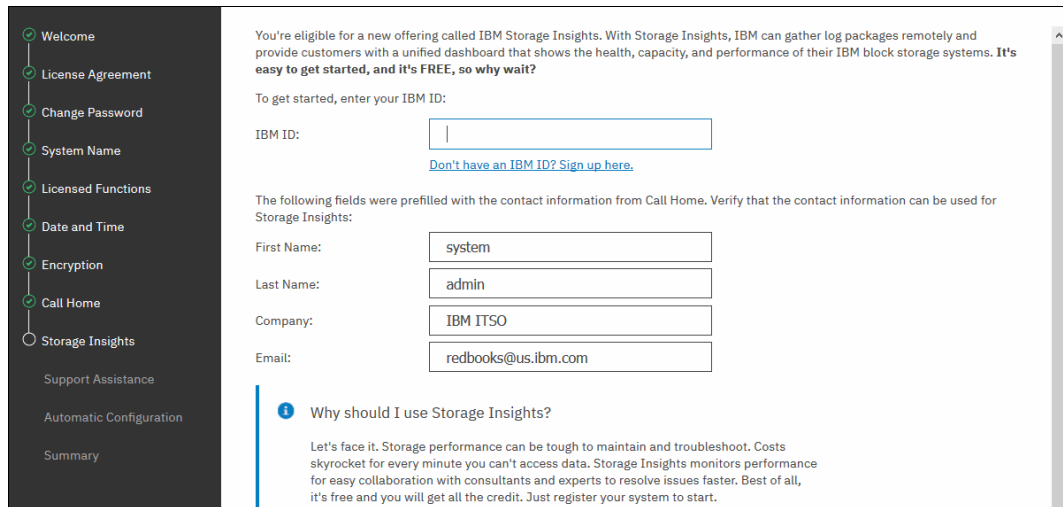

Figure 3-22 System Setup: IBM Storage Insights
10. IBM FlashSystem family systems may be used with IBM Storage Insights, which is an IBM cloud storage monitoring and management tool. During this setup phase, the system tries to contact the IBM Storage Insights web service. If it is available, you are prompted to sign up, as shown in Figure 3-22.